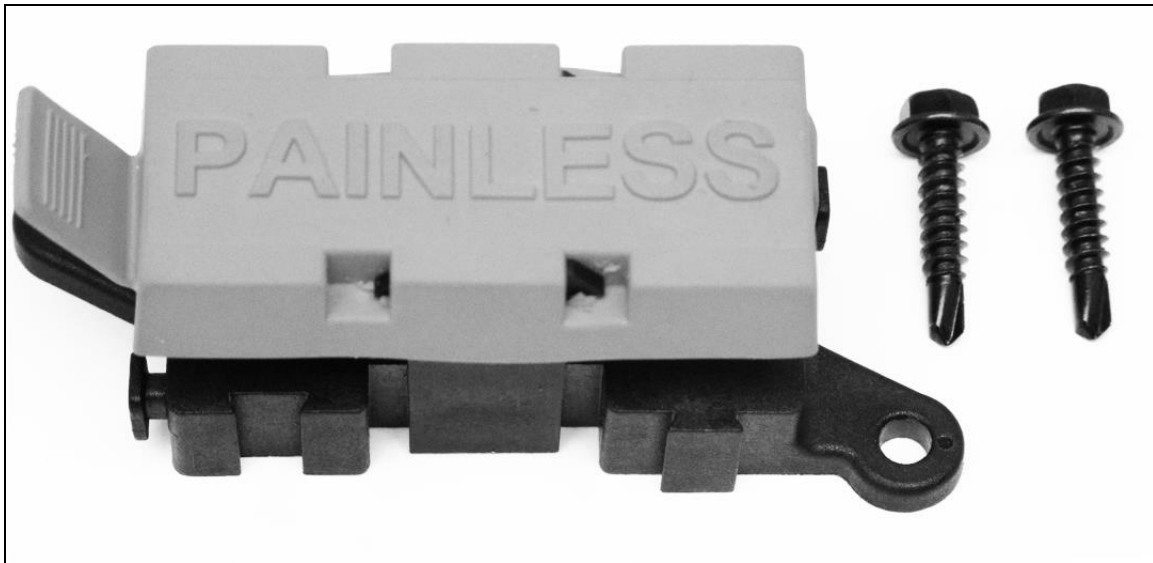

Figure 7.6 MIDI-Fuse
- 7.6.1** With a crimping tool, attach MIDI Fuse (**Figure 7.6**) onto ENGINE SECTION (single) 10GA. Wire #916 Red AFTER having routed this wire from the Fuse Panel to the Starter Solenoid. This serves as a fuse to protect the entire harness. DO NOT OMIT IT! (Alternators over 65 amps see Section 7.4).